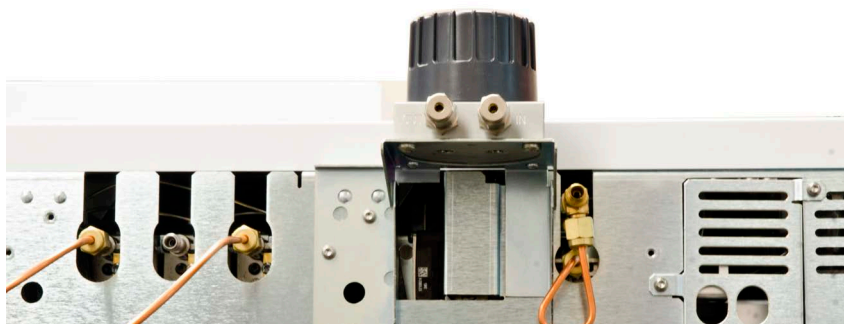

Figure 14. Bracket connecting unit installed on the bracket top for ALS and general configurations
- If you have an ALS installed with your system, install the bracket connecting unit to the top of the bracket (Figure 14).